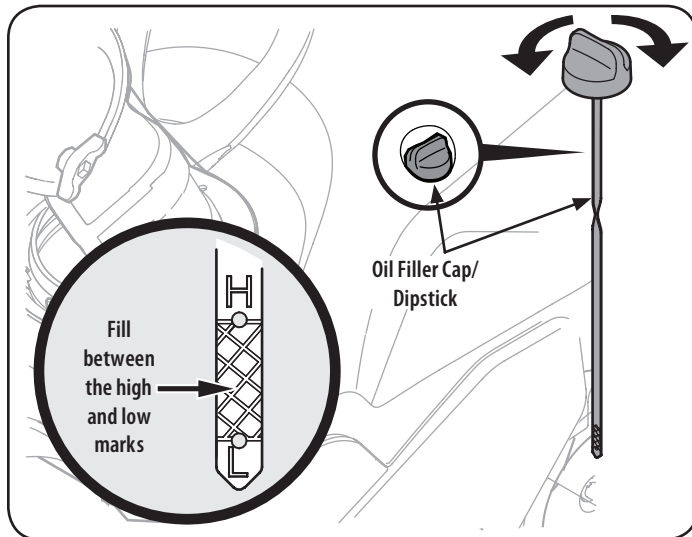

Figure 11
2. Remove the oil filler cap/dipstick and wipe the dipstick clean. See Figure 11.
4. Remove the oil filler cap/dipstick. Slowly add oil into the reservoir until oil level registers between high (H) and low (L), Figure 11.